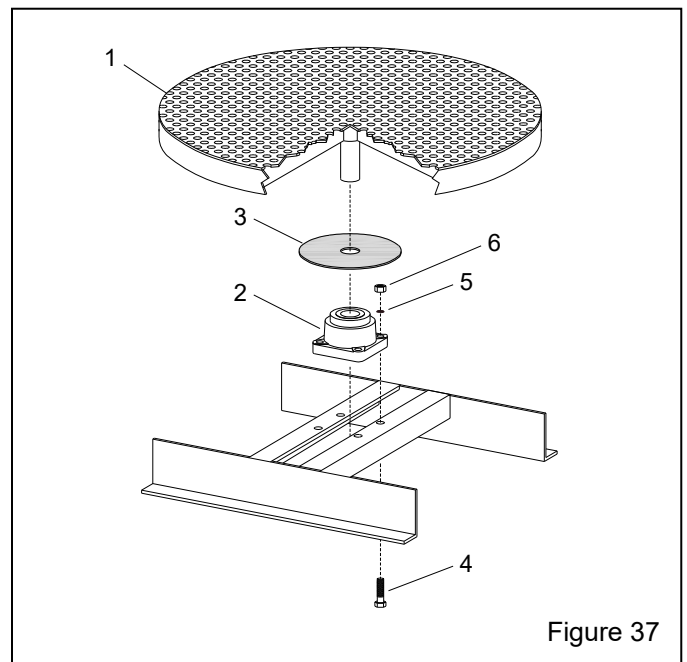

Figure 37
**Fixed-Base Turntable with Bearing, 500 lb. Capacity Figure 37**